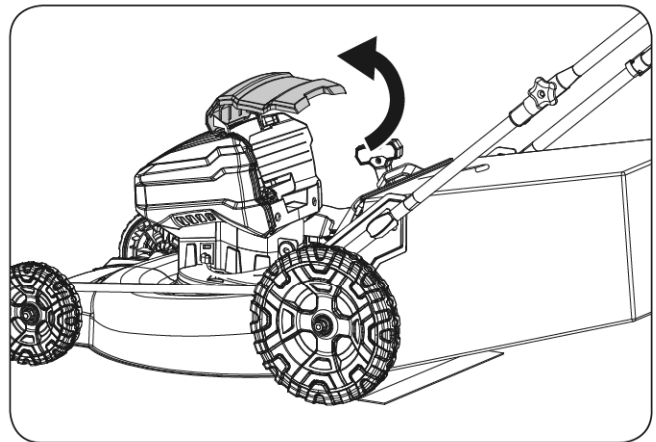

Figure 5
1. Lift and hold up the battery door. (See **Figure 5**)